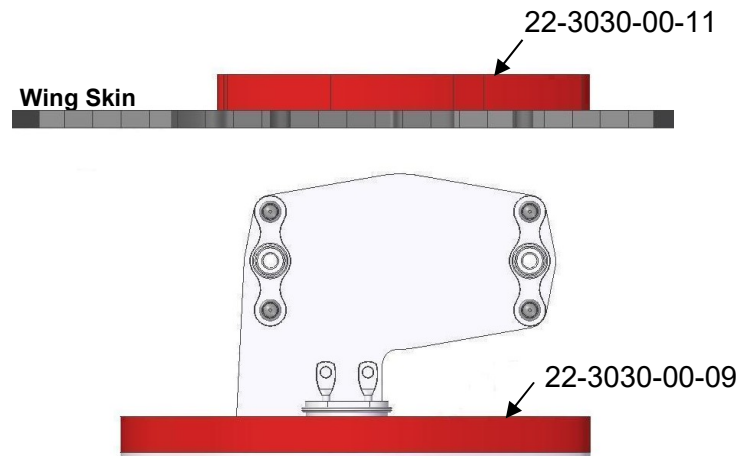

Figure 50: Positioning for Low Thermal Limit Switch Installation
- 13.3.2.1 Place the Inner Phenolic Gasket (p/n: 22-3030-00-11) inside the wing and position the Outer Phenolic Gasket (p/n: 22-3030-00-09) and the Bracket Assembly according to Figure 50.